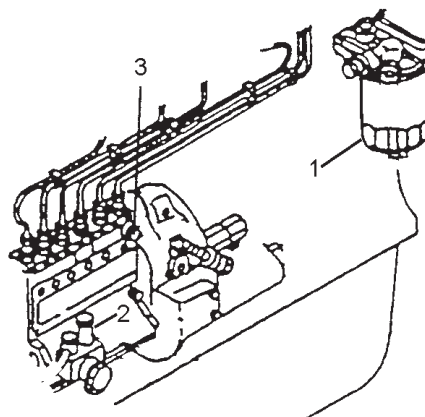

Figure 8 Fuel Feed Pump
- a. Loosen the air vent plug (#1 on Figure 8) on the fuel filter by about 1-1/2 turns. (Be sure to cover the vent with a cloth to prevent fuel from splashing.)
- b. Turn the priming pump cap on the fuel feed pump counterclockwise to unlatch it. Move the priming pump plunger (#2 on Figure 8) up and down. To close the pump turn the cap clockwise while depressing it.
- a. Turn the air vent plug (#3 on Figure 8) about 1-1/2 turns to loosen it. (Cover the vent with a cloth to prevent fuel from splashing.)